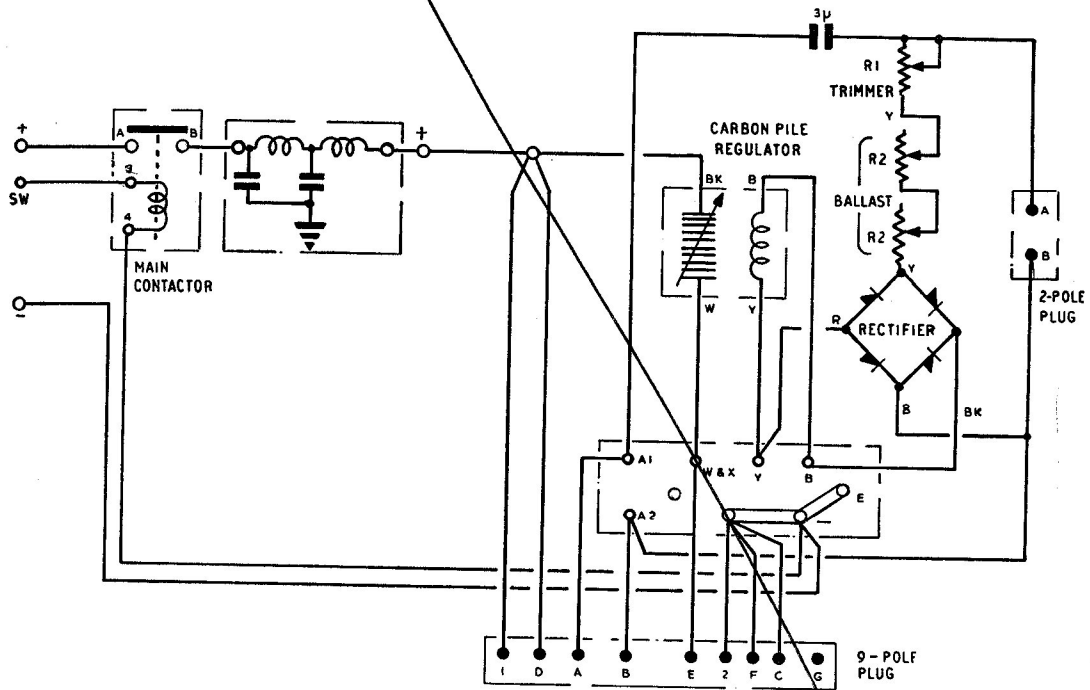

Fig. 3. Circuit diagram
terminal block on top of the main contactor. A separate switched positive supply also comes in at this point and is connected to the terminal marked sw. The negative supply enters through a separate cable gland, is connected to a special terminal post, and thence to the main terminal board on the opposite side of the unit. On this main terminal board will be seen a link. When the inverter is being used in an earthed system the link must be left in position as shown in fig. 3, but in a fully insulated system the link is to be removed. In an earthed system the earth cable is taken through the cable gland normally used by the negative supply.
6. The control panel may be fitted in any position, or attitude, provided always that sufficient space is left for connecting plugs, cables, etc. The circuit diagram is given in Fig. 3.